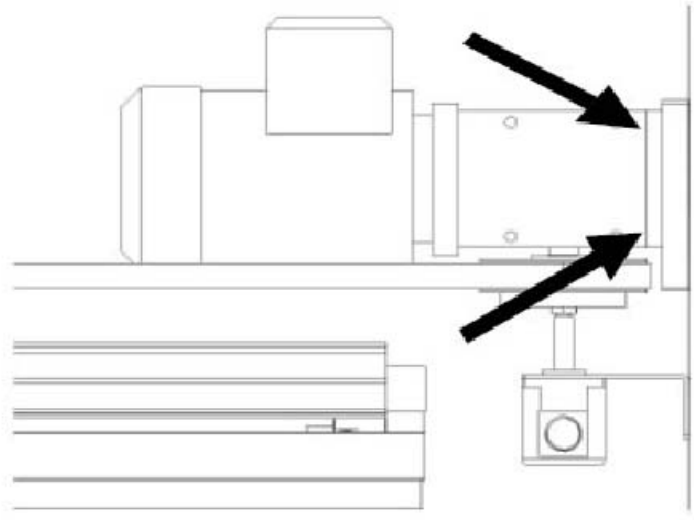

Fig. 5-6 Unscrewing the motor bolts
9. Unscrew the bolts of the motor, then remove it, as shown in Figure 5-6.